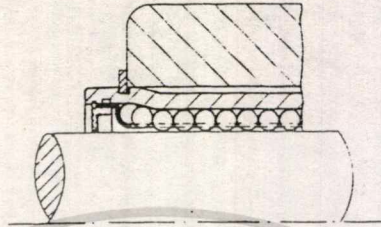

Figure 1: Retention by means of retaining rings to DIN 471. For STAR Standard and Super Linear Bearings: see Table 8
- retaining rings (Figures 1 and 2)